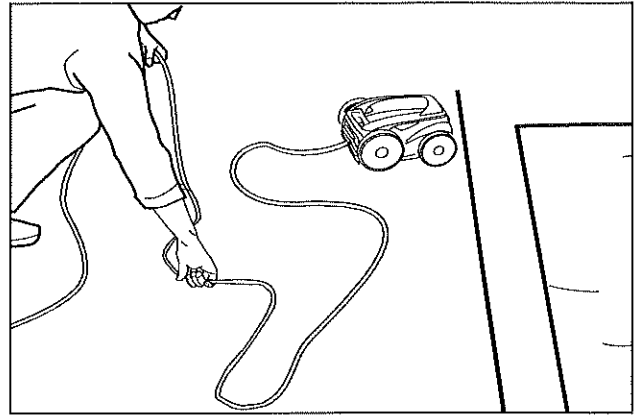

Figure 22. Smooth the Power Cable
- Starting at the cleaner head. Remove all coils and tangles from the cable (Figure 22).